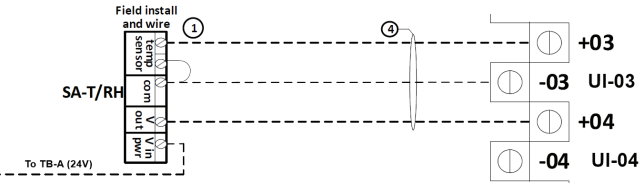

Fig. 71 — SAT/RH Controller Wiring
- Make the appropriate wiring connections at the controller. See Fig. 71.